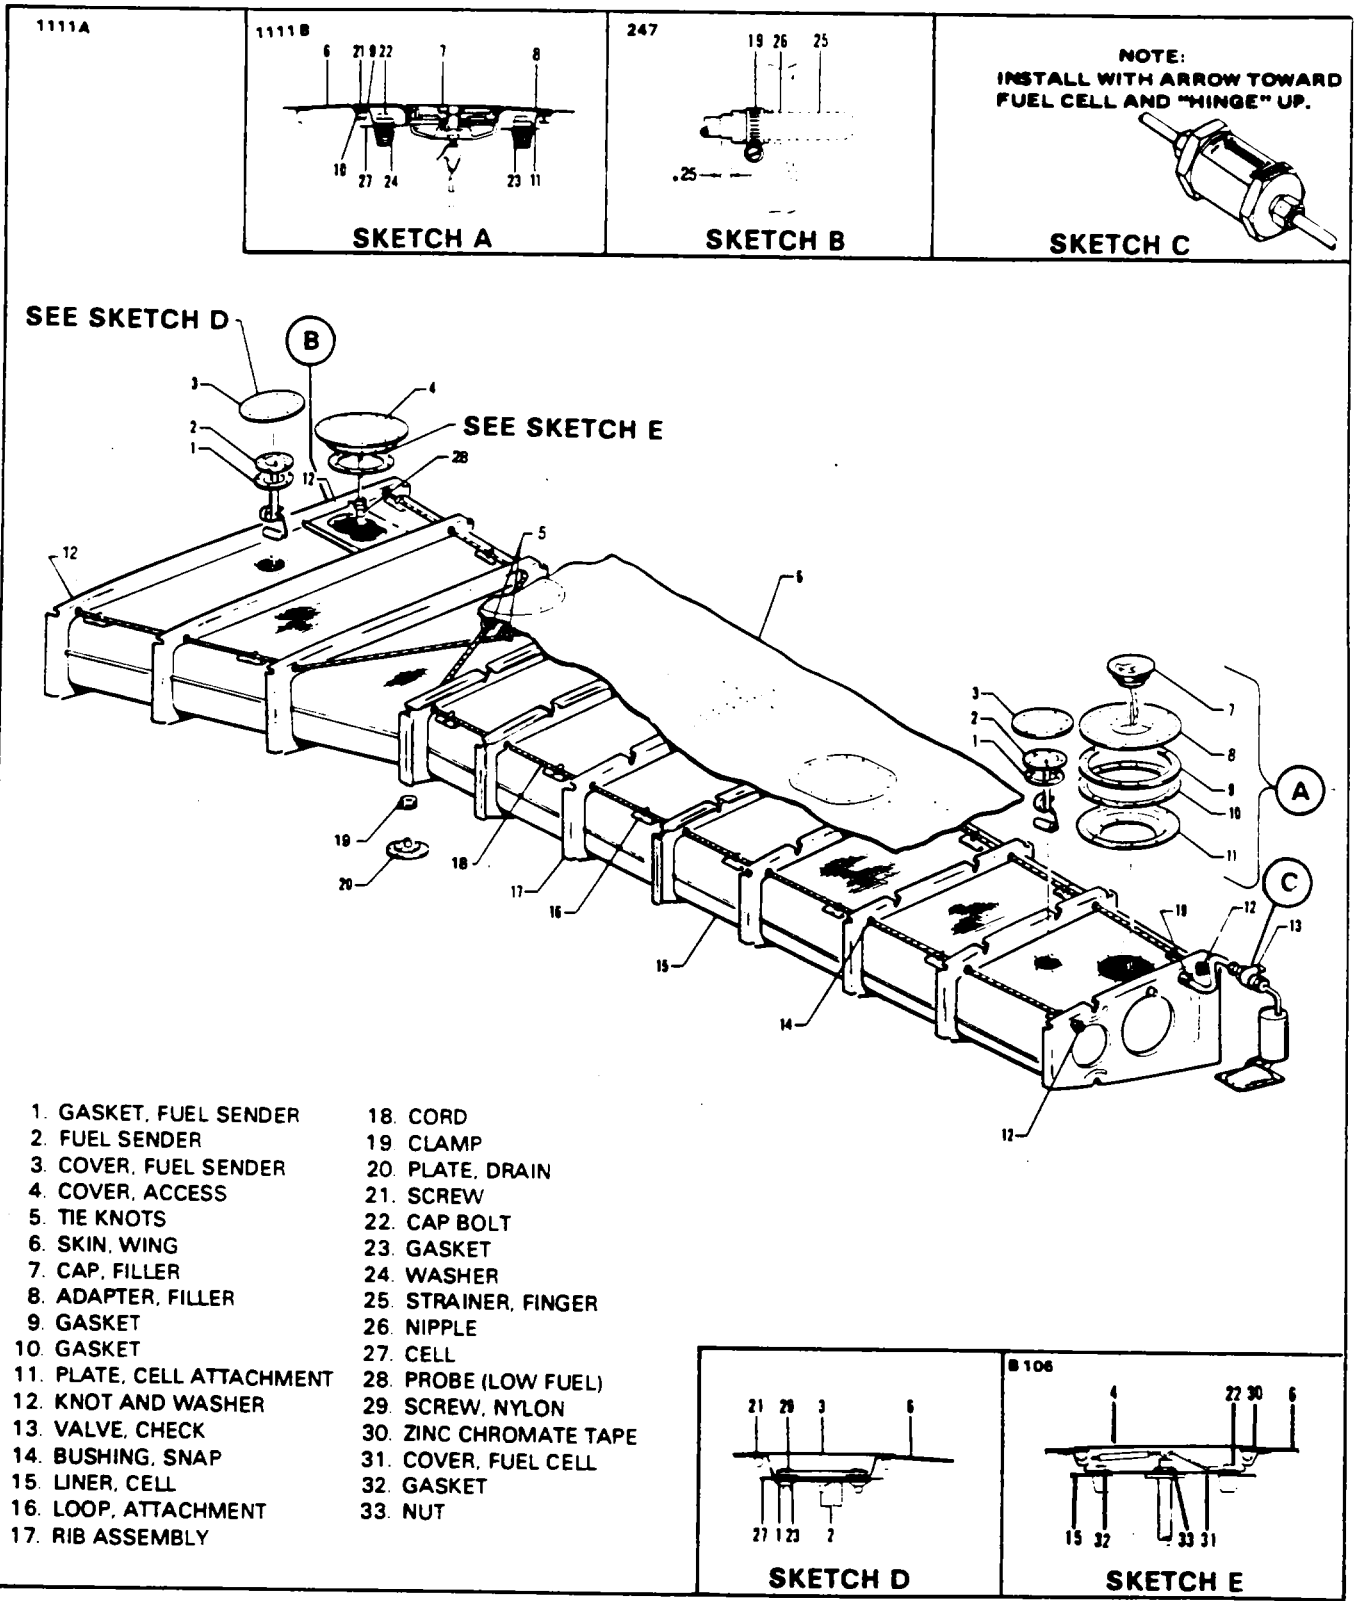

Figure 28-2. Fuel Cell Installation (Main/Inboard)
REMOVAL OF WING FUEL CELLS. (Refer to Figure 28-2 or 28-3.)
1. Insert the outlet tube finger strainer into the fitting as shown in Sketch "B", Figures 28-2, and 28-4.
INSTALLATION OF WING FUEL CELL. (Refer to Figures 28-2 and 28-3.)
10. Lay out the nylon cord (furnished with fuel cell) on the wing to determine the length of cord for each tie. The cords are routed as shown in Figures 28-2 or 28-3. Allow enough extra cord to work with.